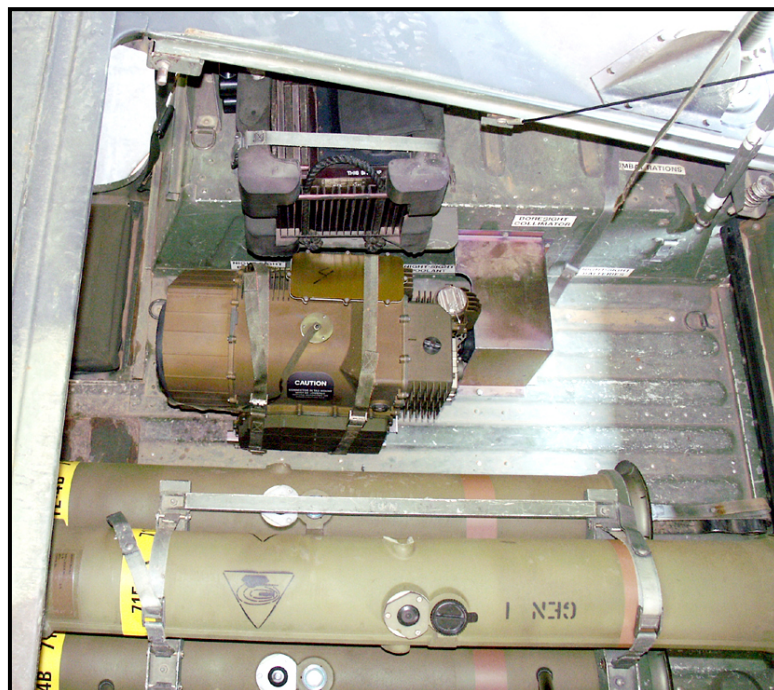

Figure 3-21. TAS stow position.
- (2) The driver-loader—
- (a) Stows the TAS in the HMMWV stowage cradle (Figure 3-21), strap side up.